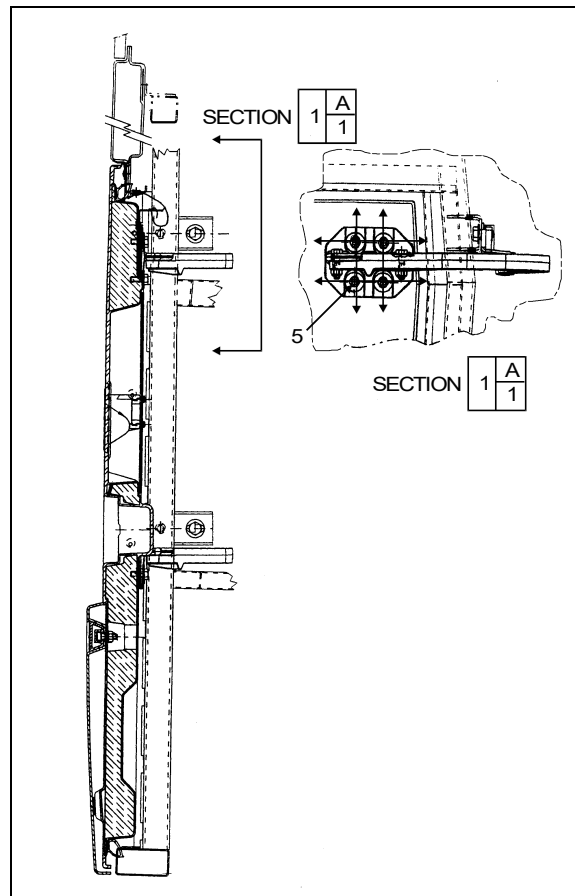

FIGURE 70: FRONT SERVICE DOOR
- Loosen screws (5, Figure 70) to allow the door to be shifted "UP or DOWN".